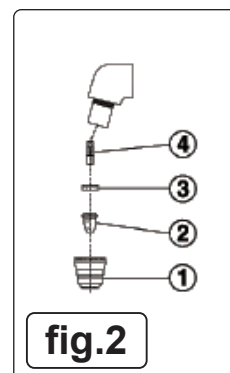

fig.2
- ❑ **WARNING!** Ensure that the torch is cool before attempting any maintenance. Always re-assemble the torch in the correct order as shown in (fig.2). Never use tools to tighten nozzle components, hand tighten only.